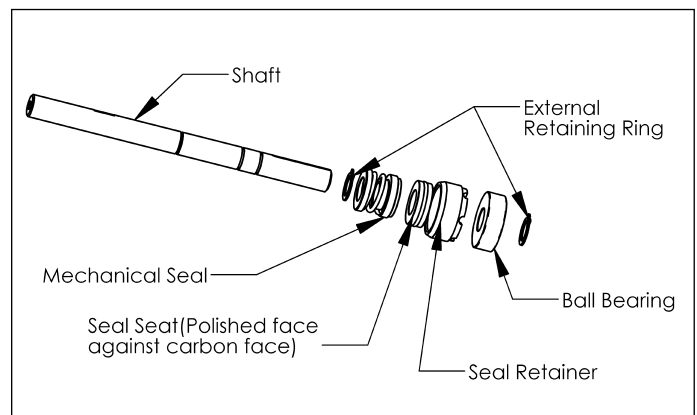

Figure 7 - Shaft, Seal and Bearing Assembly (detail view)
- c. Refer to assembling components on drive shaft (See Figure 7). When installing the seal on the shaft, wet with water and be cautious when sliding it into position. The spring retaining washer and spring are behind the seal with the carbon ceramic facing towards the keyed end of drive shaft (See Figure 7).